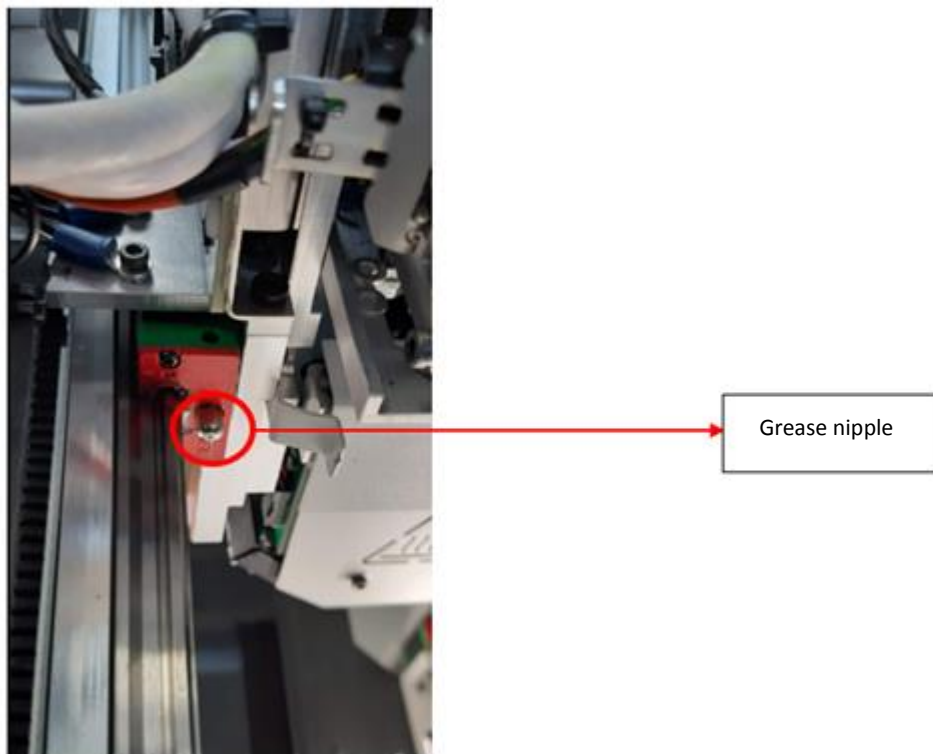

*Fig. 32 Lubricating the rear linear carriage of the X axis*
- Repeat the operation for the rear carriage of the X axis (Fig. 32).